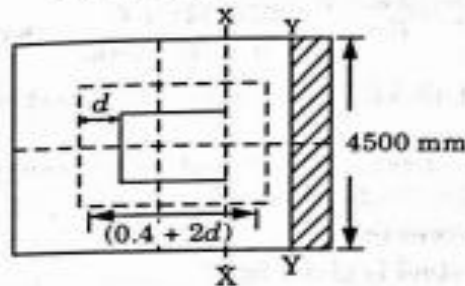

Fig. 5.3.1.
- i. Bending moment about an axis X-X pass through the face of column as shown in Fig. 5.3.1. ... (5.3.6)